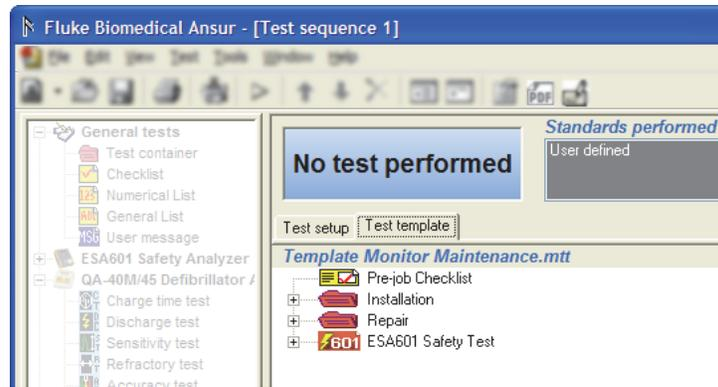

Figure 3-69. Template Added to a Test Sequence
- Browse to the folder containing the template to add to the test sequence. Click on the file name and either click the **Open** button or double-click the filename. Ansur loads the selected template, adds a new page to the test sequence window and displays the template as shown in Figure 3-69.